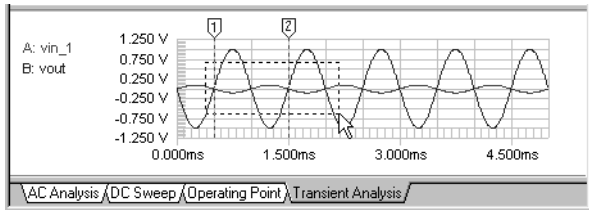

Figure 3.18. Zooming in on a section of the chart.
- 14 Draw a selection rectangle around a portion of the waveforms in the Transient Analysis window that is of interest to you. Do this by clicking the mouse once and holding the mouse while you draw a box. See Figure 3.18.